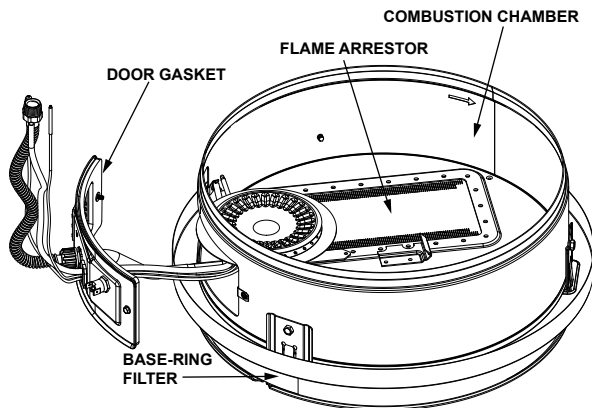

FIGURE 30.
2. Use a vacuum cleaner/shop vac to remove all loose debris in the combustion chamber (Figure 30). Use compressed air to clear any dust or debris that may have accumulated in the flame-arrestor.
1. Check the door gasket for damage or imbedded debris prior to installation (Figure 30).
4. Inspect the door gasket and make sure there is no fiberglass insulation between the gasket and the combustion chamber (Figure 30).
The piezoelectric igniter system consists of the igniter button, electrode, and wire. The pilot is ignited by an electric spark generated when the igniter button is pressed. (See Figure 30).